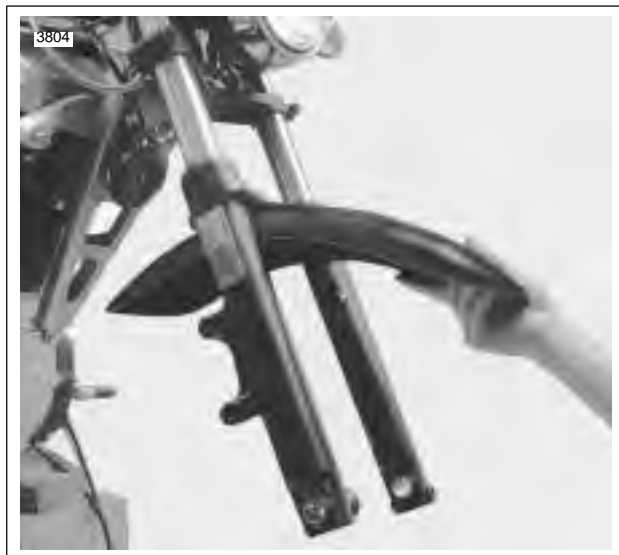

Figure 2-107. Removing Front Fender
4. See Figure 2-107. Remove front fender.